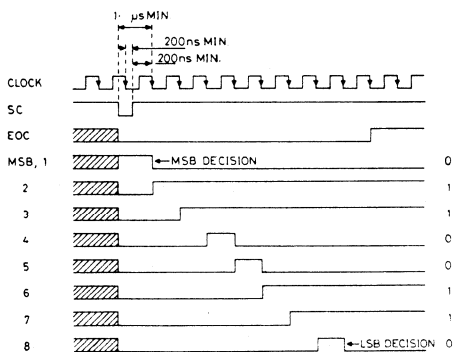

Fig. 3—Timing Diagram
Operation of the ZN427 is best described with reference to the timing diagram.—Fig 3. Conversion is initiated by a Start Convert (SC) pulse which can be applied asynchronously with respect to the ZN427 clock providing the following criteria are met.
3. As a special case of conditions (1) and (2) the SC pulse may be coincident with, and of the same duration as, a negative going clock pulse.